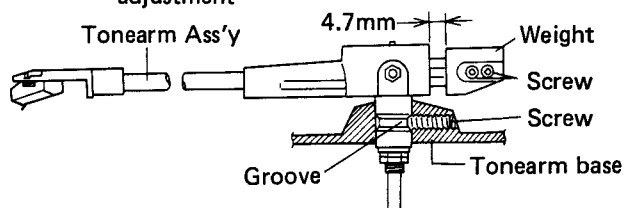

Fig. 1-24 Tracking force adjustment & Mounting the tonearm base
1. With the gap between the tonearm and balance weight set to 4.7mm as shown in Fig. 1-24, tighten the weight in that position.
The tonearm mounting position is outlined in Fig. 1-24. Align the tonearm base mounting screw with the groove in the tonearm ass'y pivot bearing, and then tighten the screw.